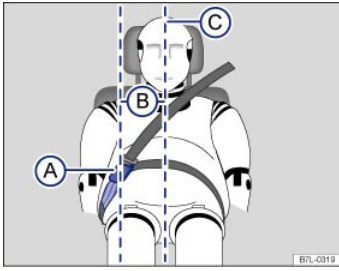

Fig. 38 Positioning of the safety belt extender.
Key to ⇒ Fig. 38 :
- Never use a safety belt extender if the distance (B) between the front edge of the safety belt extender buckle (A) and the centerline of the person using the safety belt extender ⇒ *Fig. 38* is less than 6 inches (15 cm).